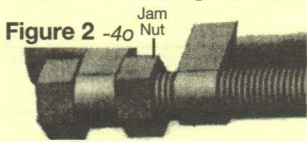

Figure 2 -40
- Drive bolt into lug until the ends of the bolt ring are as follows: (See Figure 2)